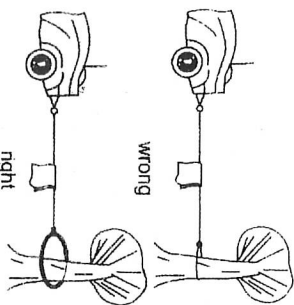

Figure 3
7. **NEVER HOOK THE WIRE ROPE BACK TO ITSELF** because you could damage the wire rope. Use a nylon sling.(Figure 3)
10. It is a good idea to lay a heavy blanket or jacket over the wire rope near the hook end when pulling heavy loads(Figure 3). If a wire rope failure should occur, the cloth will act as a damper and help prevent the rope from whipping.